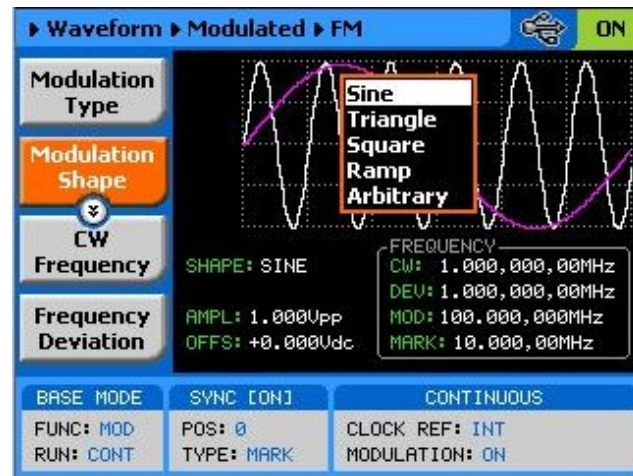

Figure 3-25, Modulating Waveform Shapes
**Modulation Shape** – Defines the shape and type of the modulating waveform. Although there are 5 options shown in the menu, there is a significant difference between the first four: Sine Triangle, Square and Ramp, and the last option – Arbitrary. The two types are described below. The Modulation Shape menu that provides access to the selection of the envelop waveform is shown in Figure 3-25.
There are two separate FM functions within the 1281A of which differ in the way that the carrier is being modulated. Looking at Figure 3-25, the first four modulating waveforms are created internally by the instrument and their parameters can be characterized by the user wither from the front panel or from a remote interface.